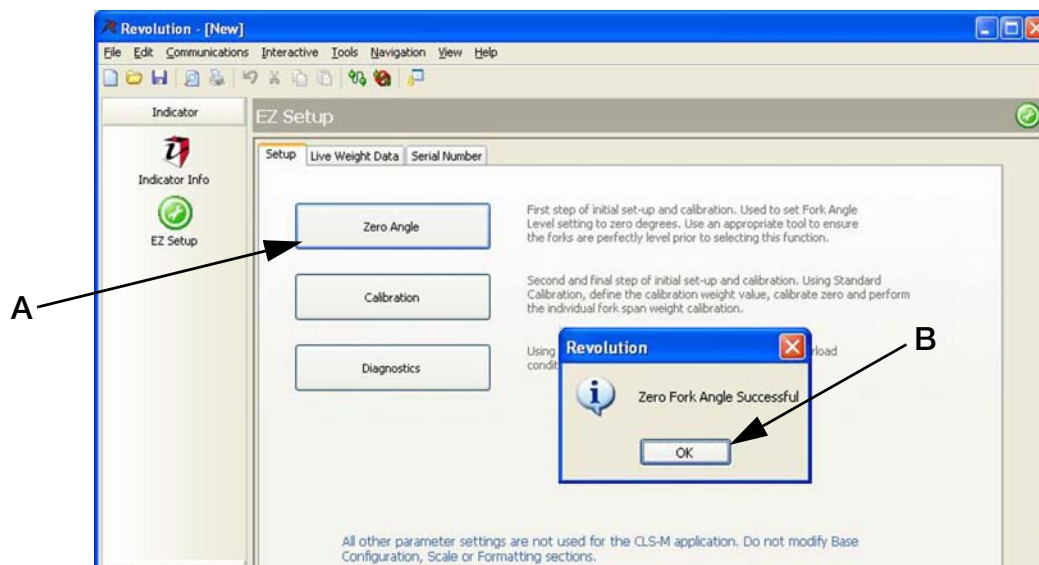

Figure 5-2. Zero Forks
2. In the setup screen, press Zero Angle (Fig 5-2 A).
3. A pop-up appears as shown in (Fig 5-2 B), press OK to close pop-up box.